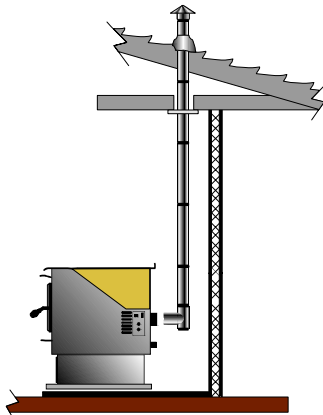

Figure 17
VERTICAL INSTALLATIONS: (Figures 17 - 22)
- 🔥 **VERTICAL, THROUGH THE CEILING**, through another room, space or attic, then through the roof, terminating with a rain cap. Figure 17.